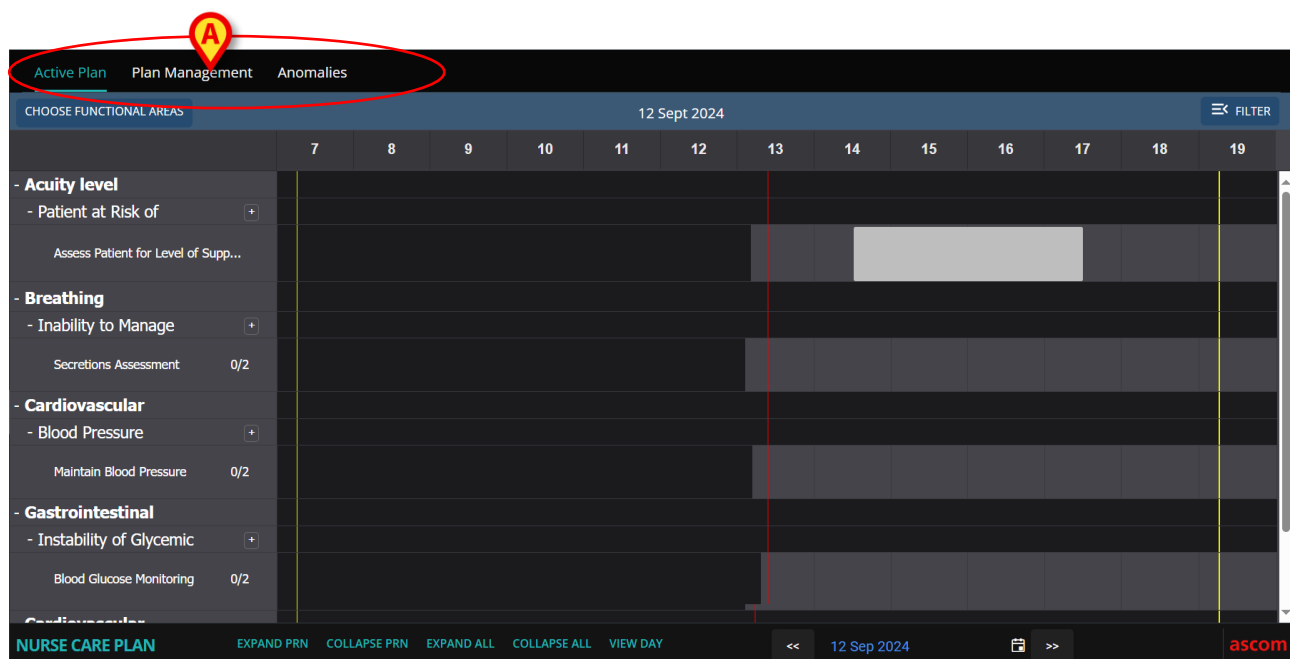

Fig 2
The screen selected by default when launching the module is the “Active Plan” (Fig 2), that, being the environment on which the activities are documented daily, is the main “workplace” for the end user.
- Click one of the tabs indicated in Fig 2 **A**.